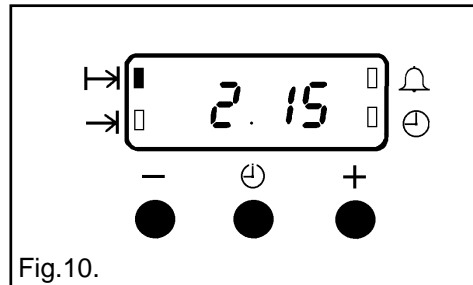

Fig.10.
- iii) To set the length of cooking time, press the Selector Control button until the 'Cook Time' (  ) indicator neon is illuminated. Press the increase control ( + ) until the required length of cooking time is displayed, e.g. 2 hrs 15 mins as Fig. 10. Depress the decrease control ( - ) if necessary.